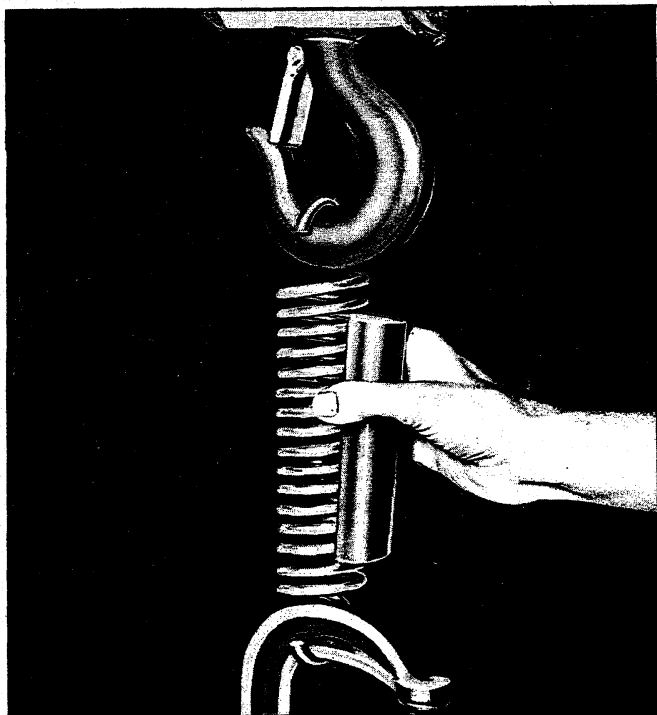

Fig. 29 - Installing Tool J-9559 in New Spring
2. Hook one end of spring in clamp and the other end in hook of a hoist as shown in Figure 29.